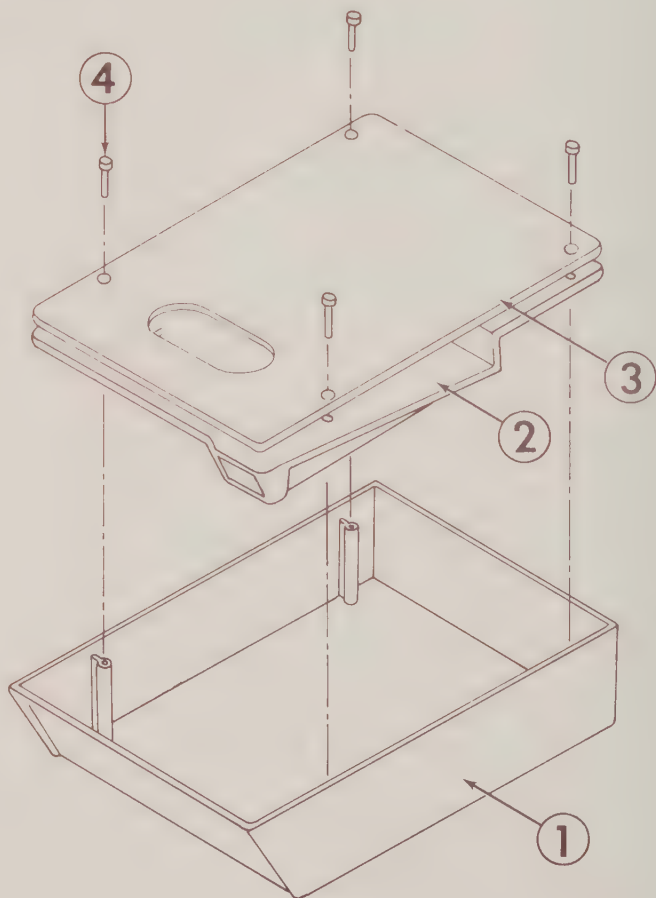
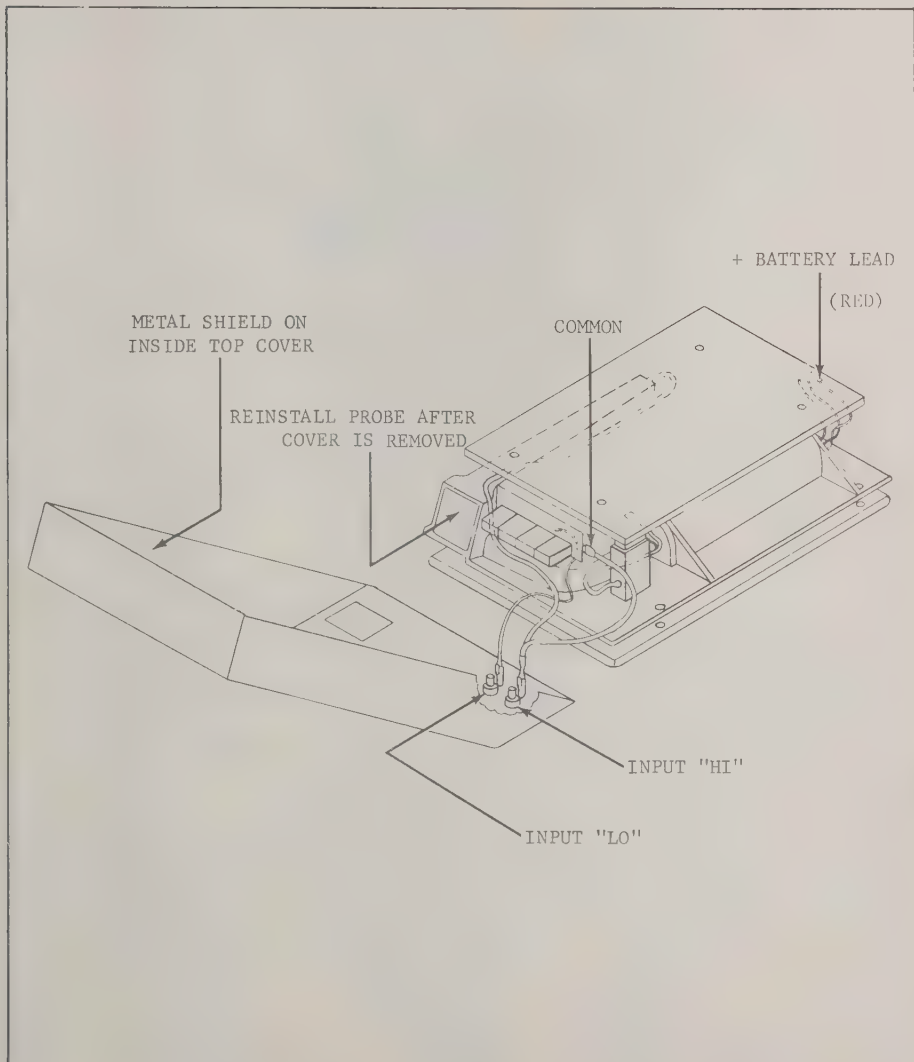

FIGURE 20. Top Cover Assembly
FIGURE 21. Chassis Assembly
a. Chassis Disassembly. To gain access to the printed circuit board, remove the four slotted screws on the bottom panel as shown in Figure 20. Lift the top cover at the rear panel and open as shown in Figure 21. Before the calibration is performed, disconnect the leads attached to the input terminals on the front panel. Place the top cover on top of the printed circuit board such that the metal shield on the cover faces up. Make a temporary connection between "common" on the circuit board and the metal shield using a clip lead. The top cover now serves as an electrostatic shield when the calibration procedure is performed. Add jumper leads from the chassis to the front panel terminals so that the terminals are useable. When the calibration is completed, reconnect the front panel terminals and replace the top cover as shown in Figure 20.
3) Malfunction of power supply.	Check red, blue, and black power leads for proper connection to circuit board. Refer to Figure 21 for proper locations. Check dc volts on integrated circuit QA101: Pin 7 should be +5V $\pm$ 5%. Pin 4 should be -12V $\pm$ 5%. (If voltages missing, see (c) below.)